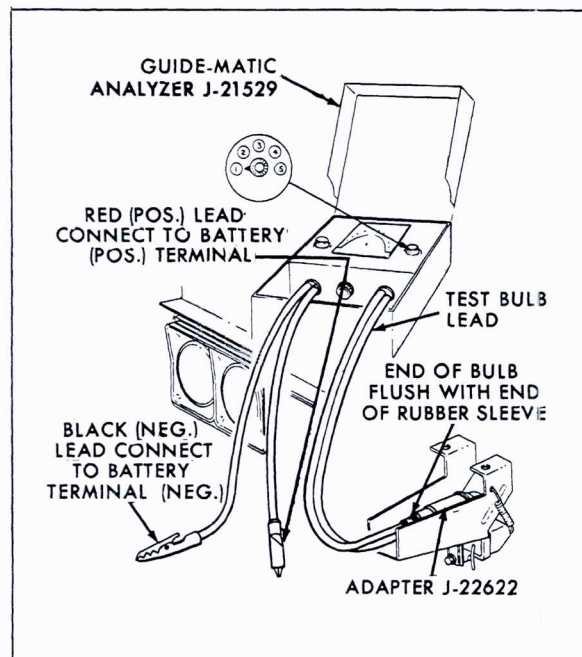

Fig. 15-40 Dim and Hold Sensitivity Test
b. Install analyzer test bulb assembly into smaller diameter hole in rear of adapter head. Push bulb and rubber sleeve forward until they stop against inner bulkhead wall of adapter head, Fig. 15-40.
c. Install and connect analyzer as shown in Fig. 15-40. Be sure adapter is seated snugly around lens and bail is snapped tightly into position. Remove two screws securing photo-amplifier shield, mount adapter and reinstall shield. Do not disconnect electrical connectors.